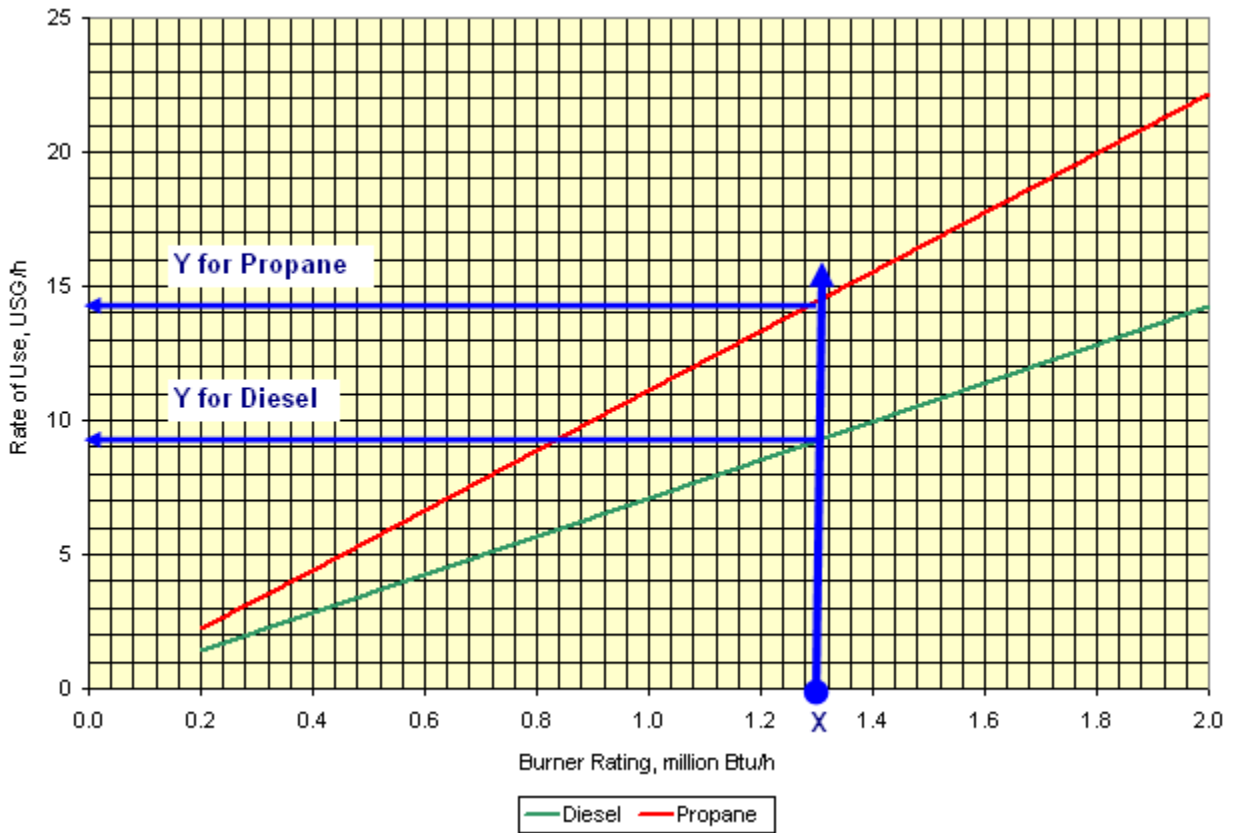

Figure 17 Consumption Rates of Propane and Diesel
- When diesel or propane is used: check fuel tank to make sure enough fuel (see Figure 17 for estimates of fuel consumption, depending on burner size and length of operation)
Figure 17 shows the volumetric flow rates of propane and diesel as a function of burner rating. If the TOTAL burner rating is X million Btu/h, and the operating time from start-up to the end of burn-down is t hours, the maximum fuel needed is: